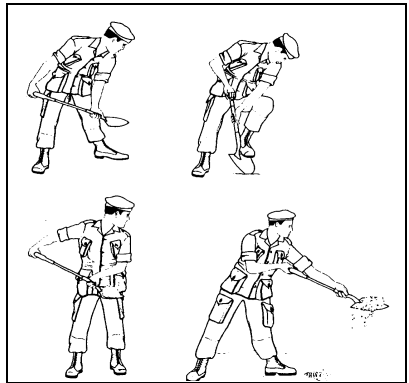

Fig 3-2-2 Correct Method of Holding and Loading a Shovel and Throwing Soil
2. The art in shovelling lies not so much in getting a full load on the shovel as depositing that load in the required place. With practice, personnel should be able to throw a shovelful of soil a distance of about 3 m with reasonable accuracy. The correct method of throwing soil is shown in Fig 3-2-2.